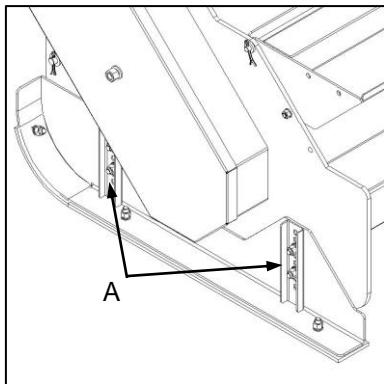

Fig. 5
- To set the working height of the implement, remove the side panel retaining bolts (Fig. 5-A) and adjust the position of the side panels as required. Ensure that the implement is level by selecting corresponding hole positions at all adjustment points.
- Om die werkshoogte van die implement te stel, verwijder die sypaneelklemboute (Fig. 5-A) en verstel die posisie van die sypanele soos nodig. Verseker dat die implement waterpas is deur ooreenstemmende gatposisies by alle verstellingspunte te selekteer.